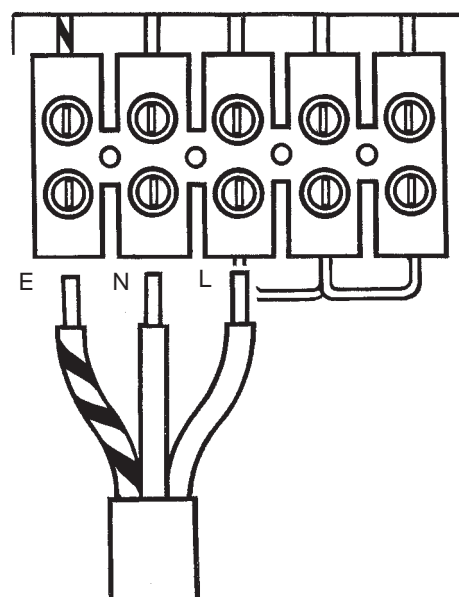

Figure 5
3. Connect the mains supply cable to the terminal block on the hob using the following colour code (Figure 5):